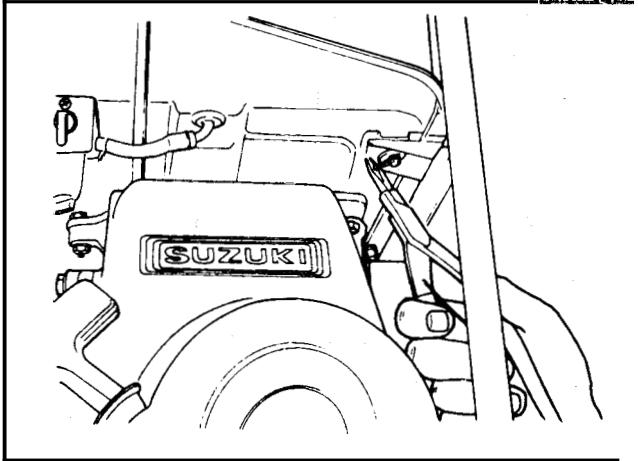

Figure 7
3. Remove two hair pin clips from the bottom of the front control panel. See Figure 7.